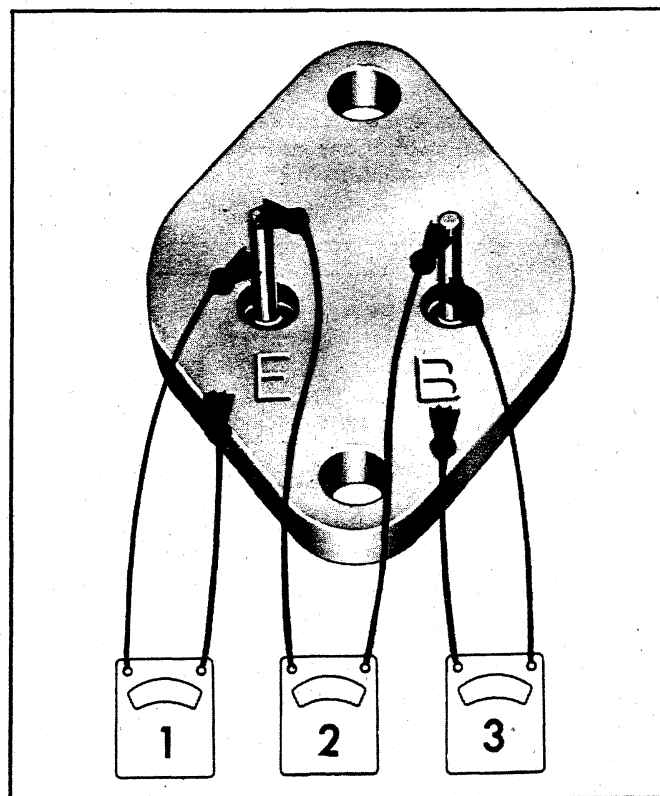

Fig. 20i—Transistor Checking
1. Transistors TR1 and TR2: Check each transistor by referring to Figure 20i. If both readings in Step 1 are zero, the transistor is shorted. If both readings in Step 2 are zero, the transistor is shorted; and if both readings are infinite, the transistor is open. Interpret Step 3 the same as Step 2.